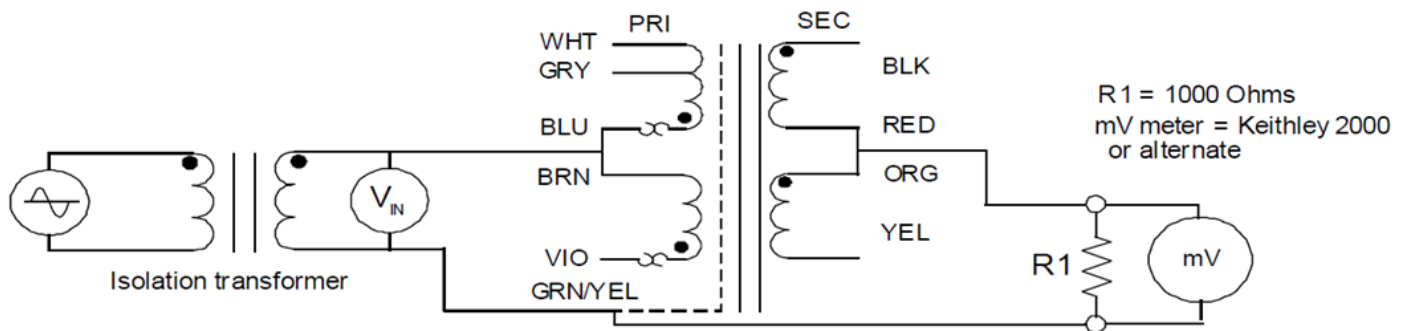
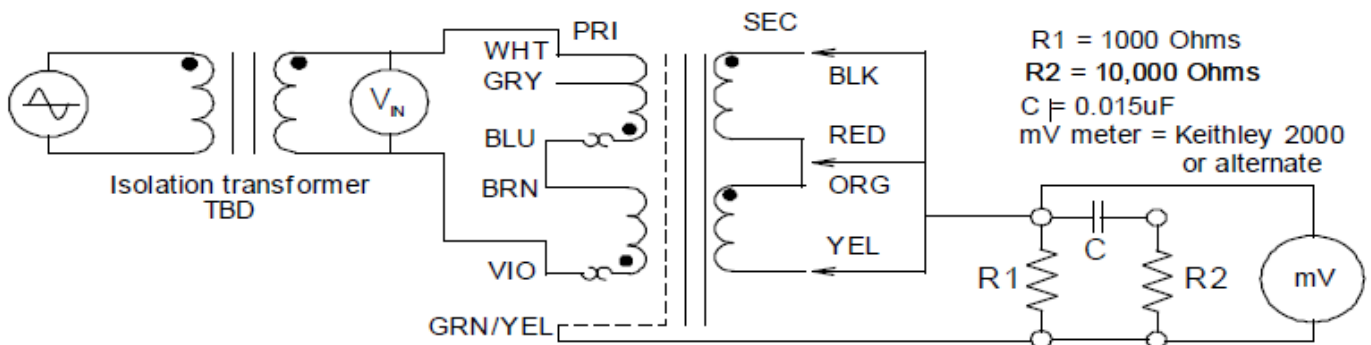

Figure 1
Figure 2
8. Earth Leakage: $\leq 10\mu\text{A}$ (See Fig. 1), Patient Leakage: $\leq 100\mu\text{A}$ (see Fig. 2)